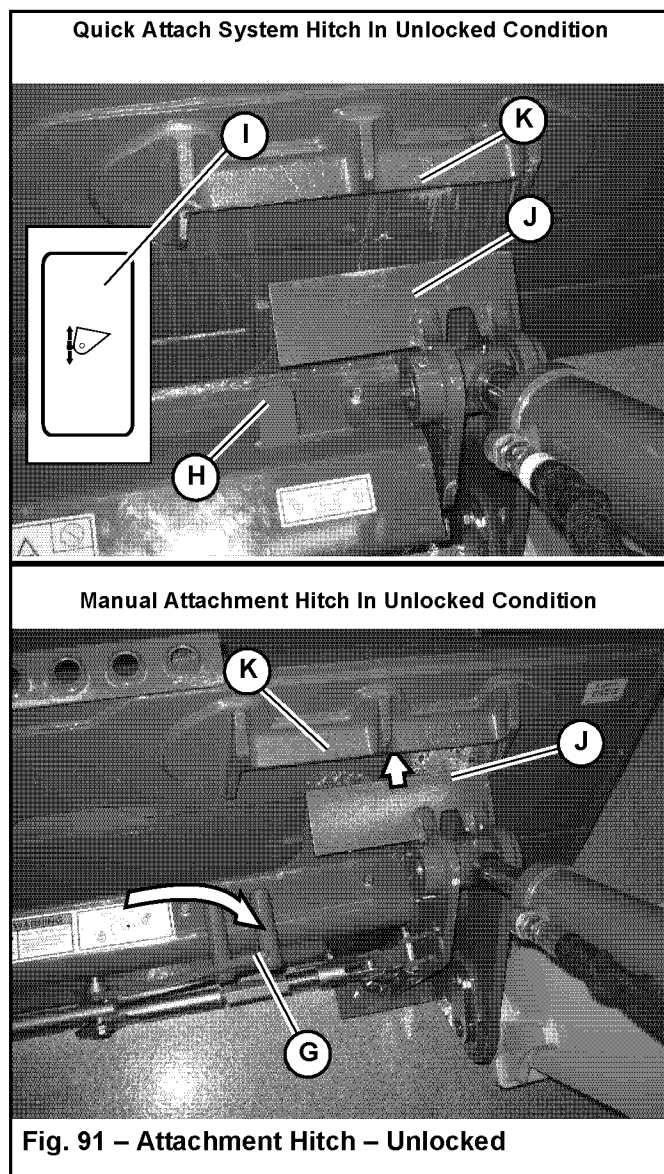

Fig. 91 – Attachment Hitch – Unlocked
- Place the attachment lock into the unlocked position (Fig. 91):
- Quick attach system hitch – Press the bottom of hitch lock switch (I) until safety flags (H) have moved all the way in.
- Manual attachment hitch – move hitch lock lever all the way to the right (G).